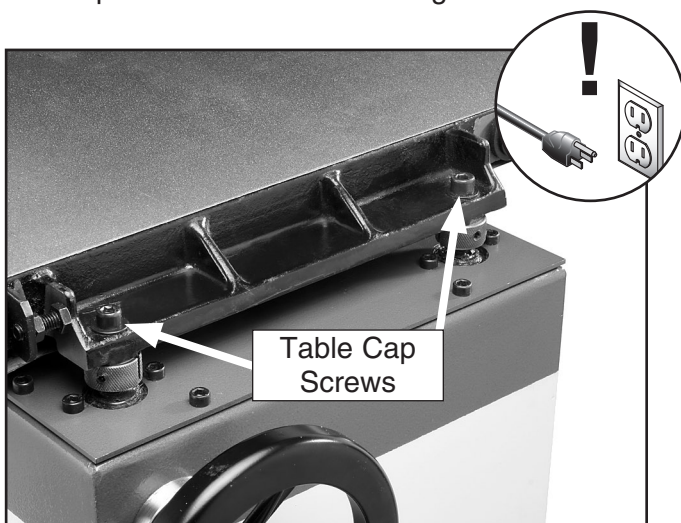

Figure 40. Feed belt table outside cap screws.
4. Remove the outside table cap screws shown in **Figure 40** and loosen the corresponding cap screws on the inside edge.